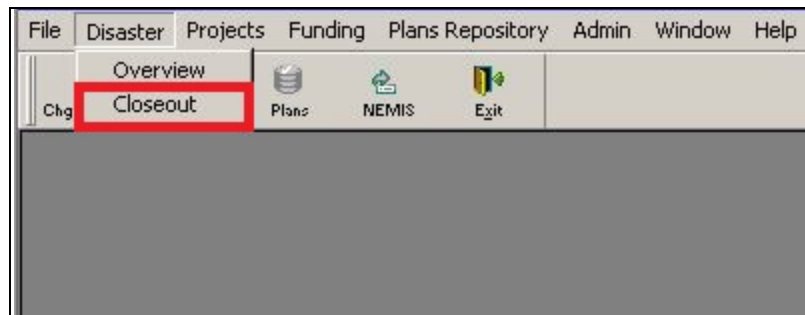

Figure 13-4: Mitigation > Disaster > Closeout
3. On the MITIGATION menu, click Disaster > Closeout (Figure 13-4).